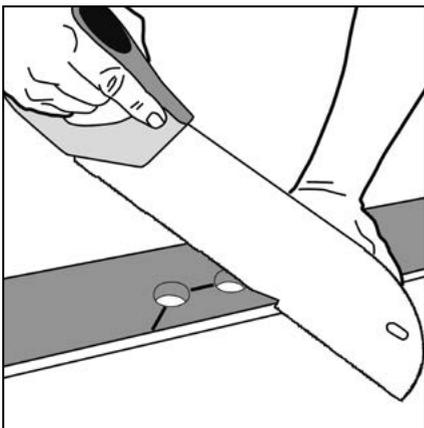

Figure 30 Radiator pipes
- ▶ Further drill the hole with a spade bit wide enough to accommodate both the diameter of the pipe and the required expansion gap. Cut around as shown with a saw or sharp utility knife; (fig. 30).